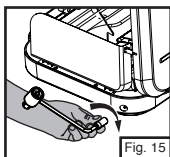

Fig. 15
- Screw regulator into stove hand tight. (Fig. 15)